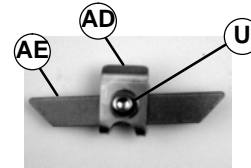

Figure 14
7c. Pre-assemble mounting clips (AD of Figure 14), guard plates (AE) and screws (U).